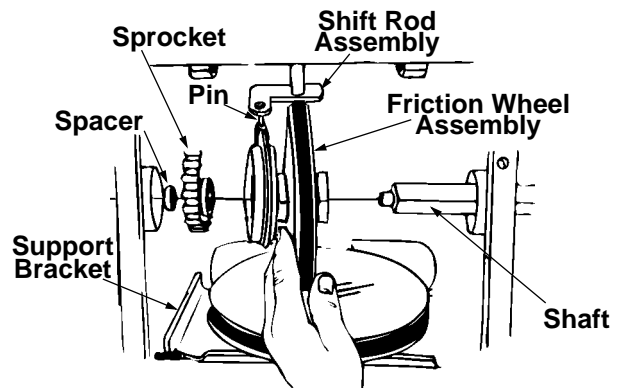

Figure 22
8. Position the friction wheel assembly up onto the pin of the shift rod assembly and slide the shaft through the friction wheel. See Figure 22.